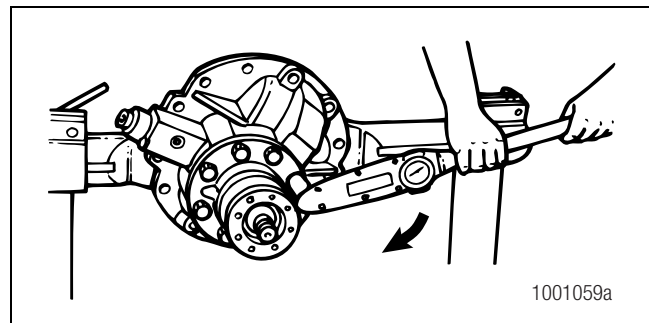

Figure 5.24
6. Install the bearing cage-to-carrier capscrews and washers. Tighten the capscrews to the correct torque value. Figure 5.24. Refer to Section 8.